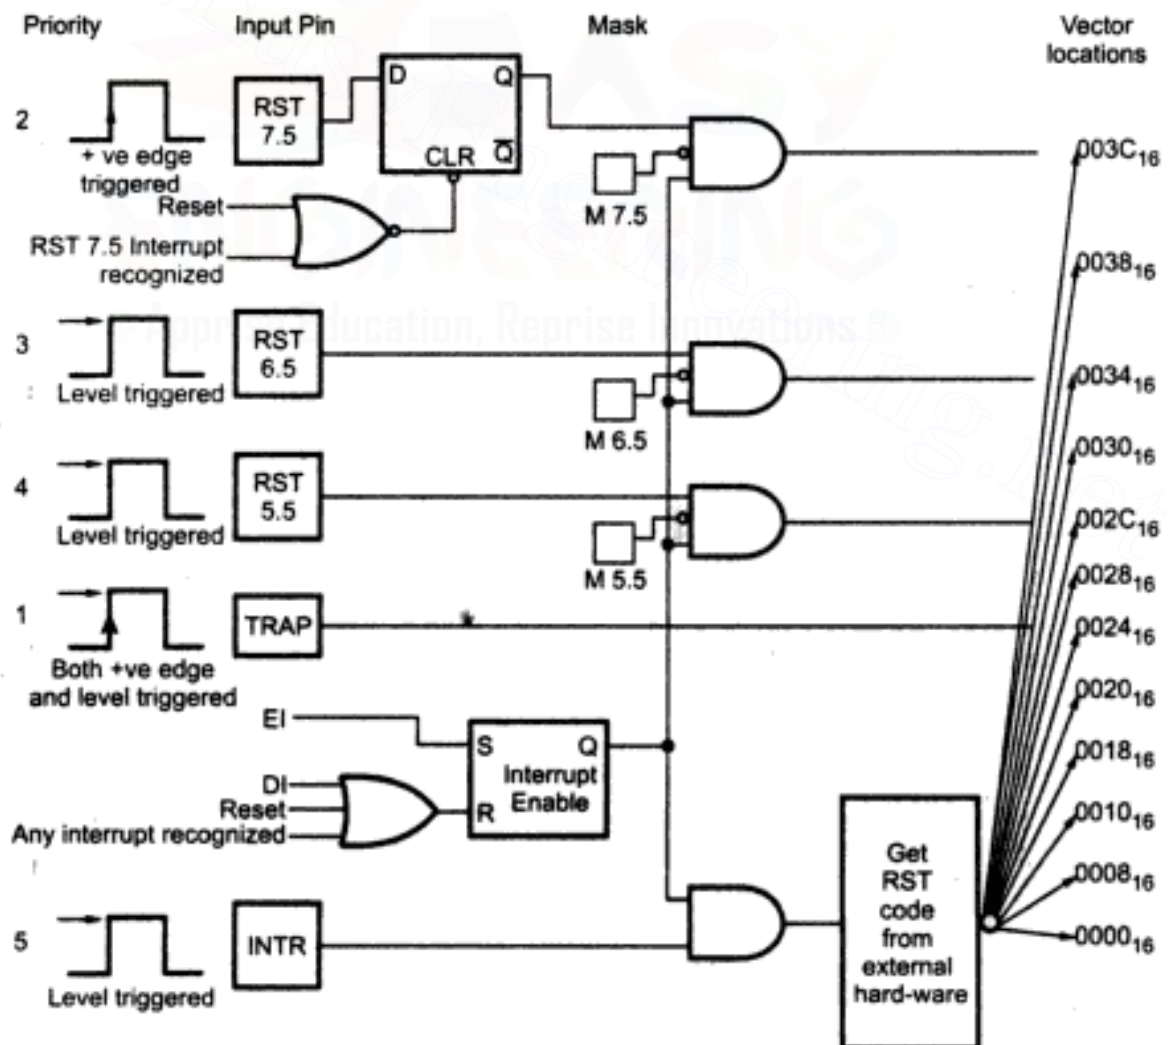

Fig. 1.38 Interrupt structure of 8085
In 8085, all interrupts except TRAP are maskable. When logic signal is applied to a maskable interrupt input, the 8085 is interrupted only if that particular input is enabled. These interrupts can be enabled or disabled under program control. If disabled, 8085 disables an interrupt request. The interrupt TRAP is nonmaskable which means that it is not maskable by program control. The Fig. 1.38 shows the interrupt structure of 8085. The
**RST 7.5 :** The RST 7.5 interrupt is a maskable interrupt. It has the second highest priority. As shown in Fig. 1.38, it is **positive edge triggered** and the positive edge trigger is stored internally by the D-flip flop until it is cleared by software reset using SIM instruction or by internally generated ACKNOWLEDGE signal.
The EI instruction sets the interrupt enable flip-flop, as shown in Fig. 1.38. Thus RST 7.5, RST 6.5, RST 5.5 and INTR are enabled using EI instruction.
The DI instruction resets the interrupt enable flip flop, as shown in Fig. 1.38. Thus it disables RST 7.5, RST 6.5, RST 5.5 and INTR interrupts.